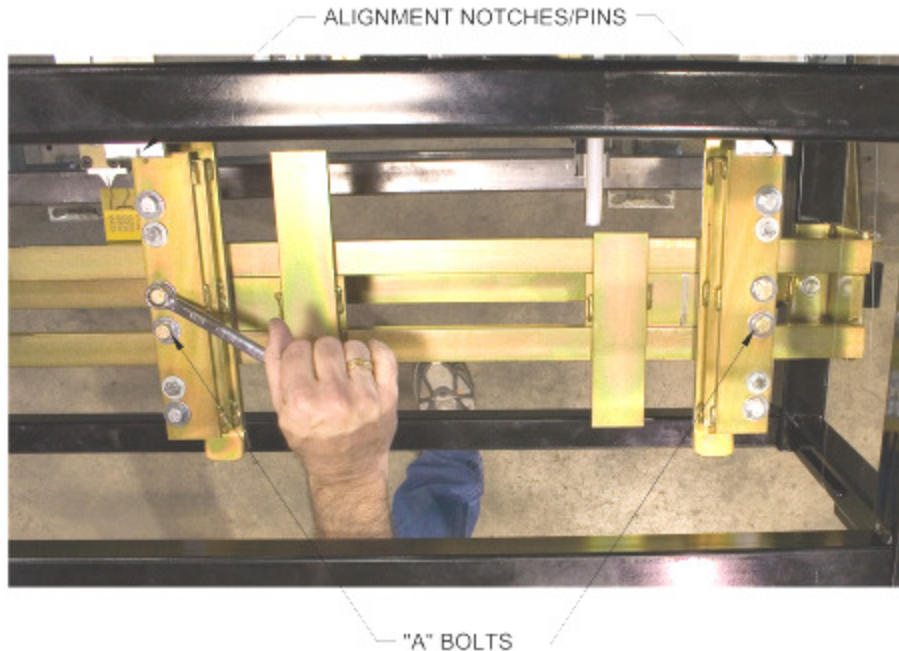

Figure 30: Entry Guide Bolts "A"
1. Loosen the two “A” bolts on the Left Entry Guide (Figure 30). Slide the entry guide to the left or right to accept the new coil width.